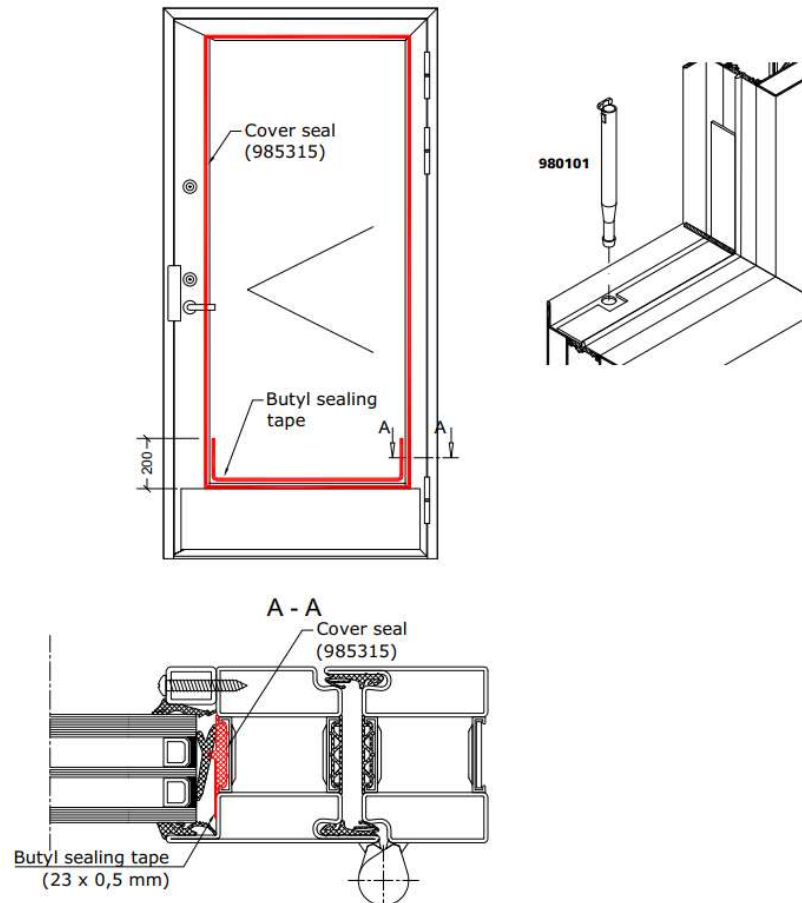

Figure 6 Installation of Unico Hi cover seal 985315 and butyl sealing tape
2. Install the Unico Hi cover seal to the glazing opening and butyl sealing tape (23 x 0,5 mm) at the bottom of the opening. Butyl tape mustn't cover the drainage pipe (980101) in the horizontal profile, make cutouts for these (Figure 6).